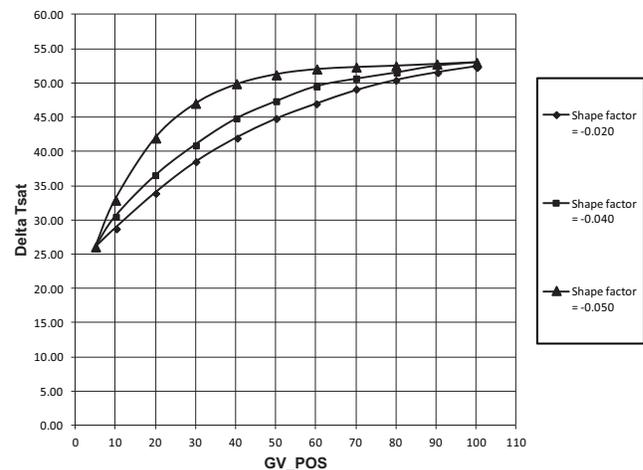

Fig. 39 — Effect of SURGE LINE SHAPE FACTOR on Surge Prevention
- Surge Line Shape Factor determines the curvature of the line mainly in the low load zone. (See Fig. 39.)